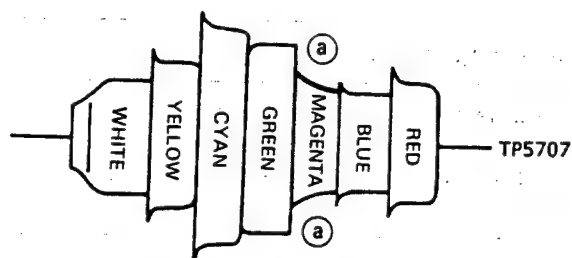

Figure 2-19.
1. Adjust T5702 so that the output at point (a) should be as shown in Fig. 2-19.